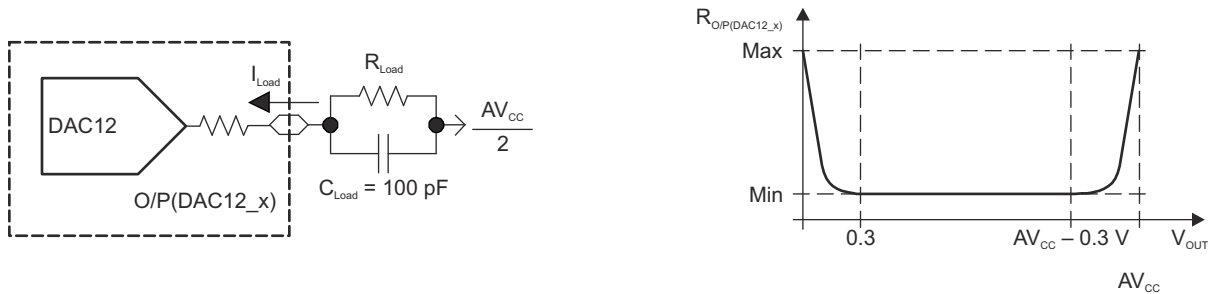

**Figure 8-18. DAC12\_x Output Resistance Tests**
| V OOutput voltage range (1) (see <a href="#">Figure 8-18</a> ) | No load, V REF+ = AV CC , DAC12_xDAT = 0h, DAC12IR = 1, DAC12AMPx = 7                     | 2.2 V, 3 V      | 0                       |     | 0.005            | V    |
| R O/P(DAC12)Output resistance (see <a href="#">Figure 8-18</a> )          | R Load = 3 kΩ, V O/P(DAC12) < 0.3 V, DAC12AMPx = 2, DAC12_xDAT = 0h                       | 2.2 V, 3 V      |                         | 150 | 250              | Ω    |